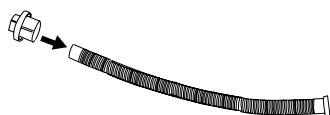
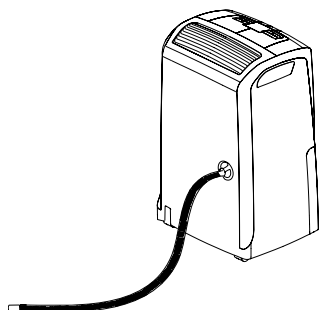
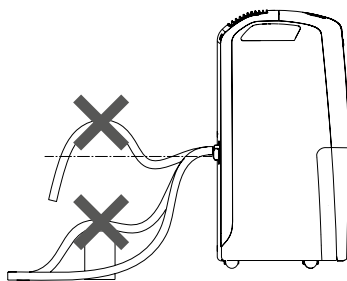

Fig. 3
Fig. 4
Fig. 5
- 2) Insert the drain cap **1** into the condensate drain hose **8** (fig. 3). Then, screw the cap **1** into the spout. (fig. 4).
- 3) Make sure the end of the hose is no higher than the spout (Fig. 3) or water could remain in the tank. Make sure there are no kinks in the hose (Fig. 5).